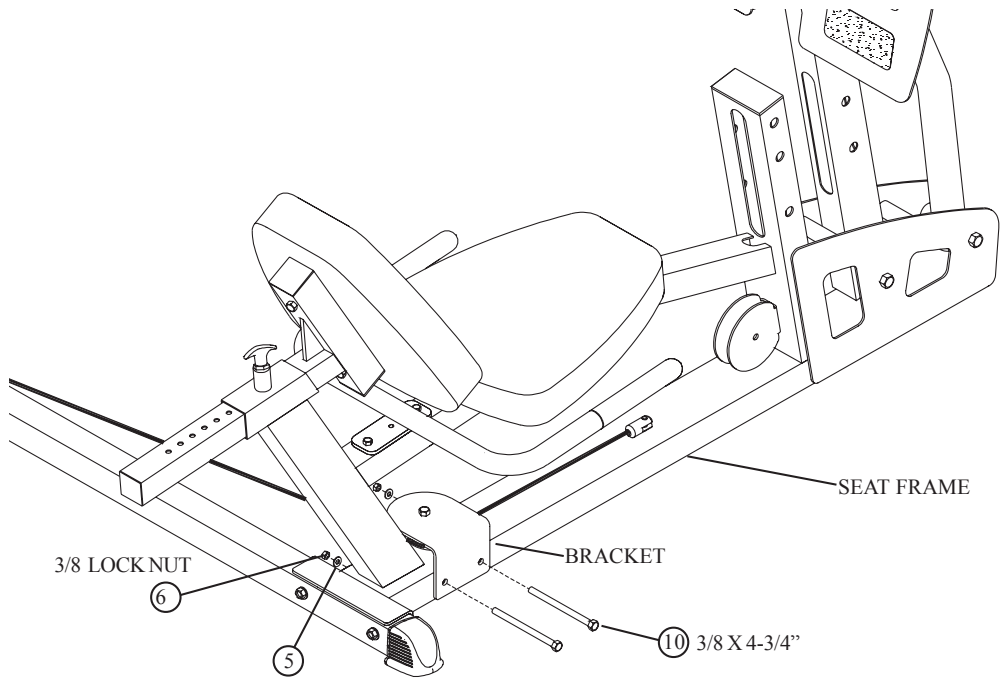

FIGURE 7
- **SECURELY** attach the BRACKET (from GLP LEG PRESS) to the SEAT FRAME using two 3/8" X 4-3/4" BOLTS (10), two 3/8" WASHERS (5), and two 3/8" LOCK NUTS (6). See FIGURE 7.